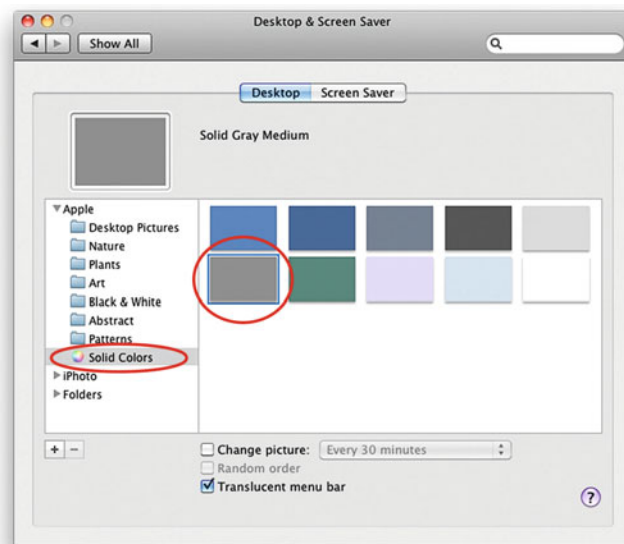

FIGURE 4.9 Desktop and Screen Saver preferences in Apple Mac OS X with Solid Colors and Solid Medium Gray selected and circled.
3. Once in this preference window (Figure 4.9), select **Solid Colors** on the left and then the first gray in the second row. This is **Solid Gray Medium**.